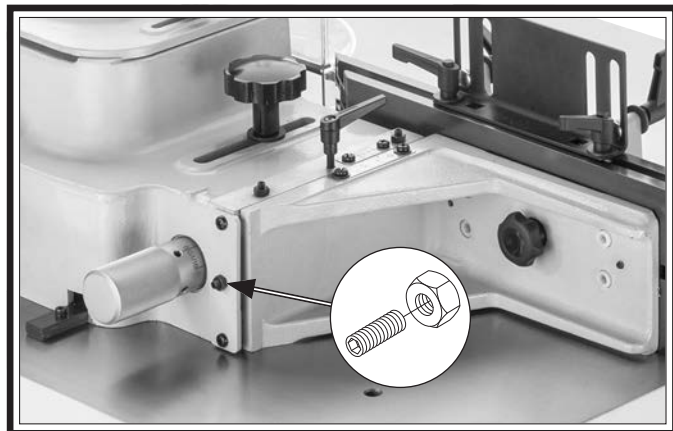

Figure 88. Location of gib adjustment hardware.
4. Loosen gib jam nut shown in Figure 88.